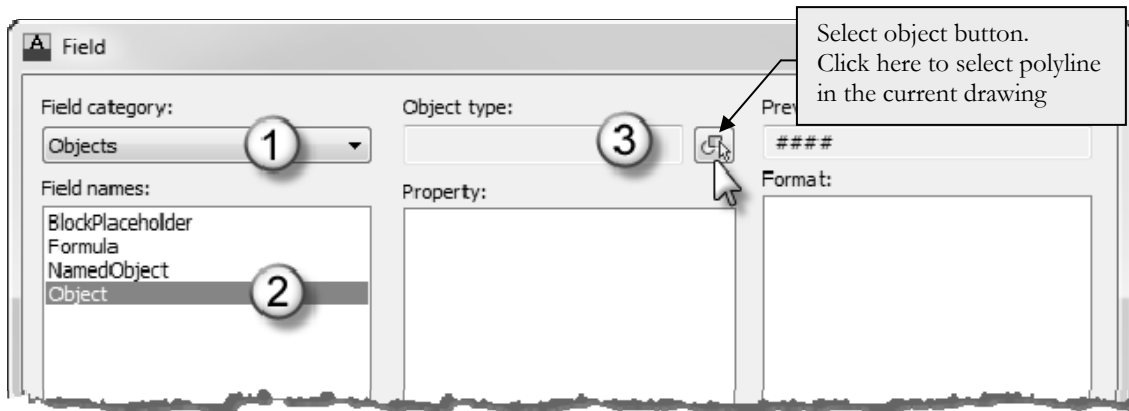

FIGURE 4-4.5 Field dialog box
You are now in the *Field* dialog box (Figure 4-4.5) where you specify what type of information you want this specific *Field* to display. You can have things like the date, file name and much more, and they automatically update if they change.
13. Under *Field category*, select **Objects** (Figure 4-4.5).
14. Under *Field names*, click **Object** (Figure 4-4.5).
15. Under *Object type*, click the **Select object** button (Figure 4-4.5).